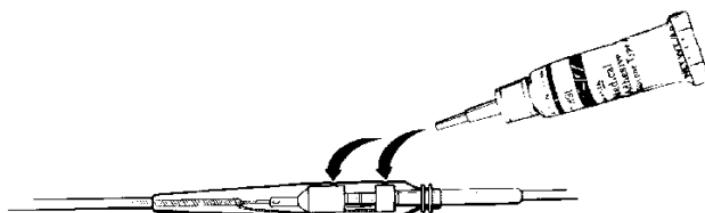

Figure 3. Apply medical adhesive in the two setscrew holes
8. Attach the applicator tip to the medical adhesive tube. Fill and cover the two setscrew hole openings with medical adhesive (see Figure 3).